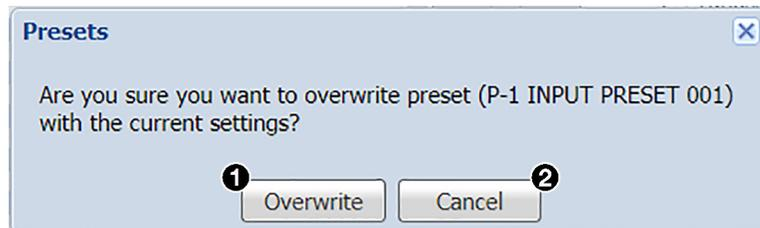

Figure 77. Presets Save Confirmation Dialog Box
1. Select the input preset or user preset (see figure 77, **1**) to store the current configuration.
1. Select the input preset or user preset (see figure 77, ①, on the previous page) to be recalled.
2. Click the **Recall Preset** button (③) located in the same Input Presets or User Presets panel. A confirmation dialog box opens.